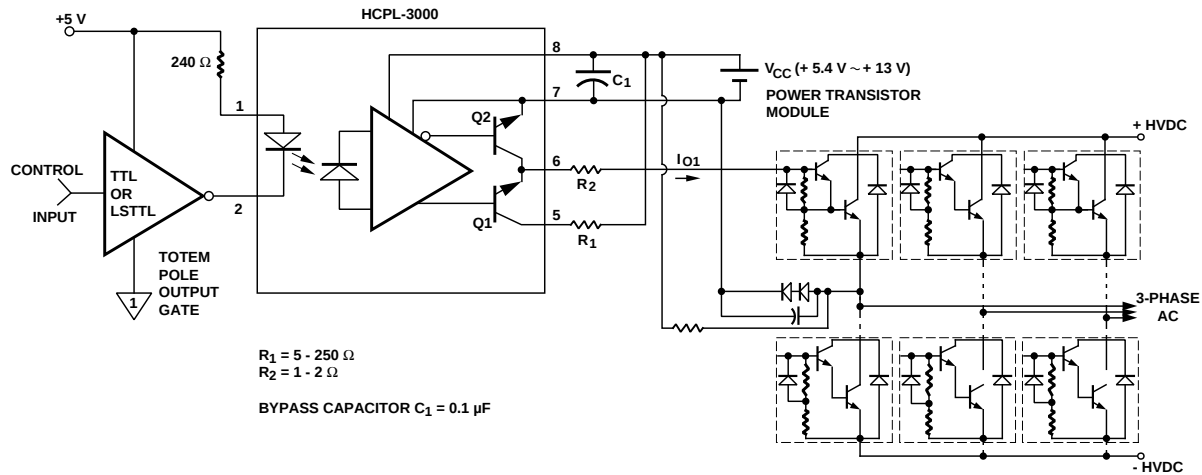

Figure 1. Recommended Output Transistor Protection and Typical Application Circuit.
THE USE OF A 0.1μF BYPASS CAPACITOR CONNECTED BETWEEN PINS 8 AND 7 IS RECOMMENDED. ALSO, CURRENT LIMITING RESISTORS ARE RECOMMENDED (SEE FIGURE 1, NOTE 2, AND NOTE 7).
amounts of current. Figure 1 describes a recommended circuit design showing current limiting resistors R₁ and R₂ which are necessary in order to prevent
- R_1 sets the base current (I_{O1} in Figure 1) supplied to the power bipolar device. R_2 limits the peak current seen by Q2 when the device is turning off. For more applications and circuit design information see Application Note "Power Transistor Gate/Base Drive Optocouplers."